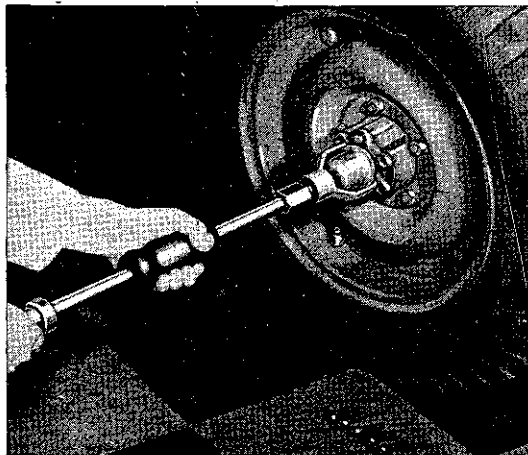

FIG. 241—HUB CAP PULLER
- b. Remove the hub cap with a puller as shown in Fig. 241.